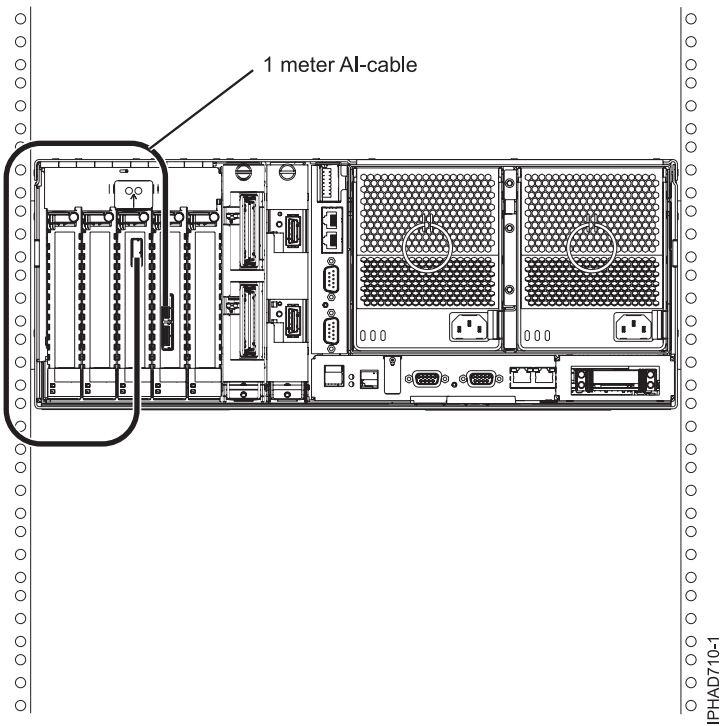
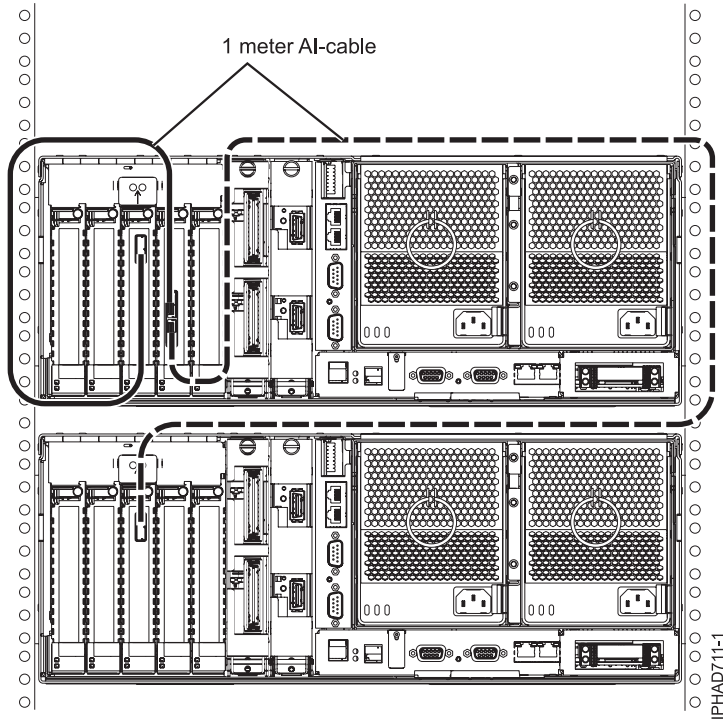
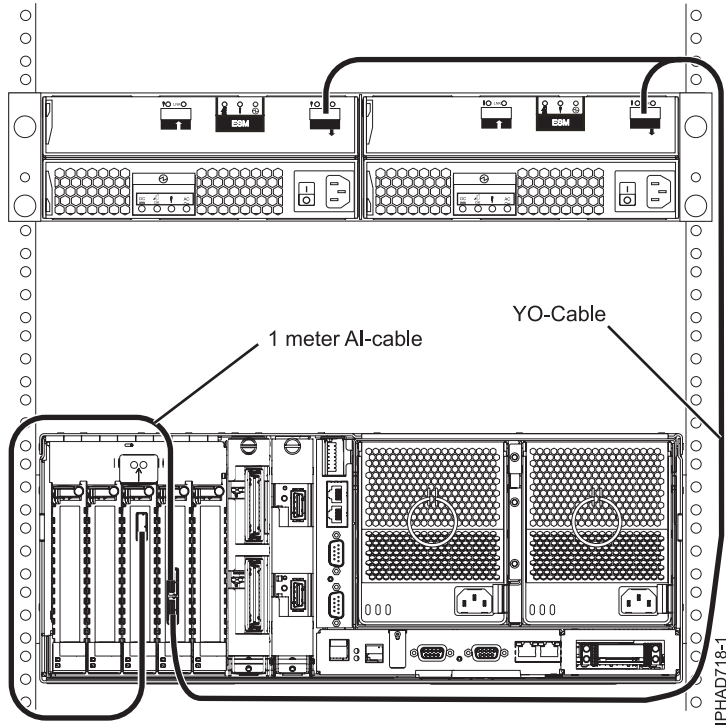

Figure 271. SAS adapter to internal SAS disk slots through an FC3650 or FC3651 cable card
Figure 272. SAS adapter to internal SAS disk slots through two FC3650 or FC3651 cards
Figure 274. SAS adapter to disk expansion drawer and internal SAS disk slots through an FC3650 or FC3651 cable card
Figure 271 and Figure 272 on page 694 illustrate connecting a SAS adapter to internal SAS disk slots through one or two FC3650 or FC3651 cable cards. Figure 274 on page 696 and Figure 276 on page 697 illustrate connecting a disk expansion or media expansion drawer in addition to the internal SAS disk slots. Figure 277 on page 697 illustrates connecting a SAS adapter to internal SAS disk slots through an FC5909 or FC5911 combination adapter and cable card.
**Note:** The middle connector on the FC5909 is not used for any connection. The middle connector on the FC5911 can be used to connect an additional disk expansion or media expansion drawer. Refer to the expansion drawer connection in Figure 274 on page 696 and Figure 276 on page 697.